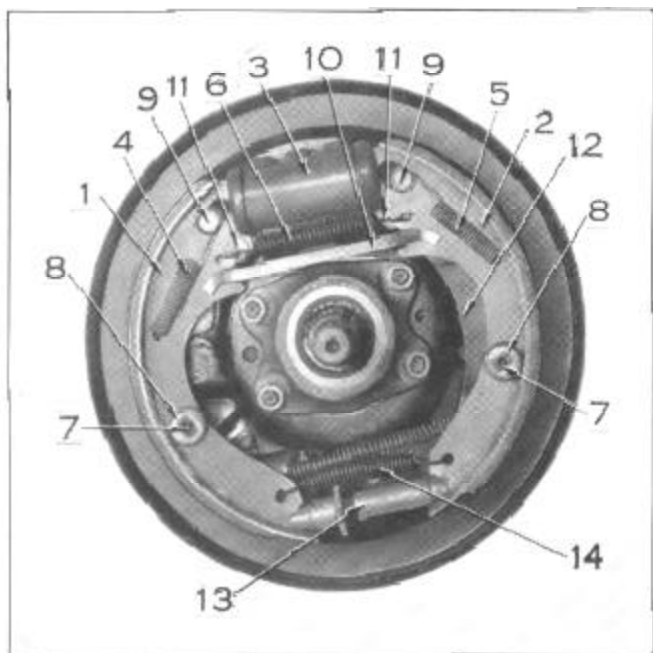

Figure 6
8. Push cable into conduit and after shoes have been reinstalled, connect cable to shoe operating lever (12), Figure 6, leaving adjustable yoke end of cable disconnected.
2. Remove brake shoe to anchor pin primary spring (4), Figure 6, secondary spring (5) and brake shoe spring (primary and secondary) (6).
3. Remove brake shoe cable lever strut (10).
4. Remove brake shoe hold-down spring cups (8), springs and spring pin (7).
5. Remove brake adjusting screw spring (14) and screw (13).
6. Remove shoes (1) and (2).